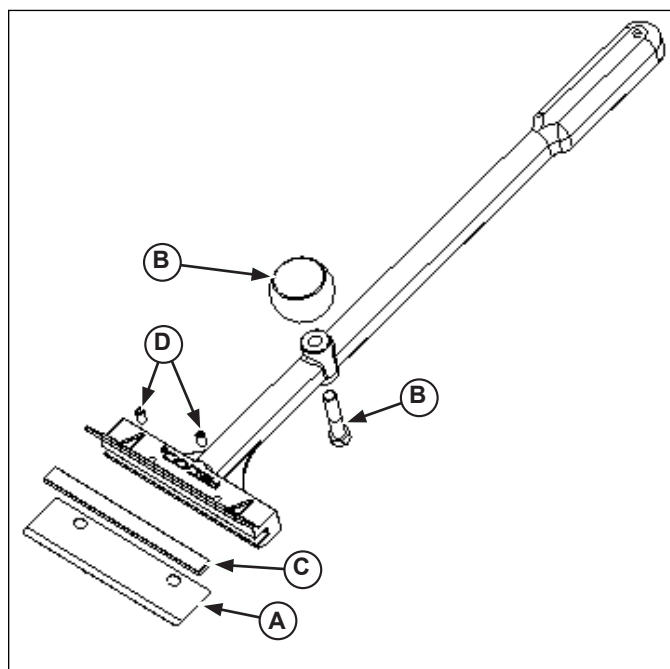

Figure 2. Exploded View
2. Loosen the set screws with an Allen wrench. See Figure 2.
3. Carefully remove the blade (A) and pressure plate (D). Properly dispose of the old blade.
4. Carefully align the replacement blade (A) and pressure plate (D) into the groove of the head section casting/handle (B).
5. With the pressure plate (B) and blade (A) in place, firmly tighten the set screws (E).